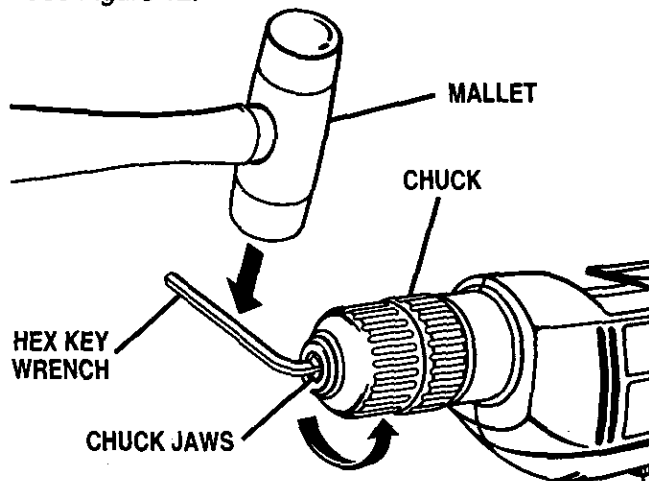

Fig. 12
- Insert hex key wrench into chuck and tighten chuck jaws securely. Tap sharply with a mallet in a counterclockwise direction. This will loosen the chuck on the spindle. It can now be unscrewed by hand. See Figure 12.